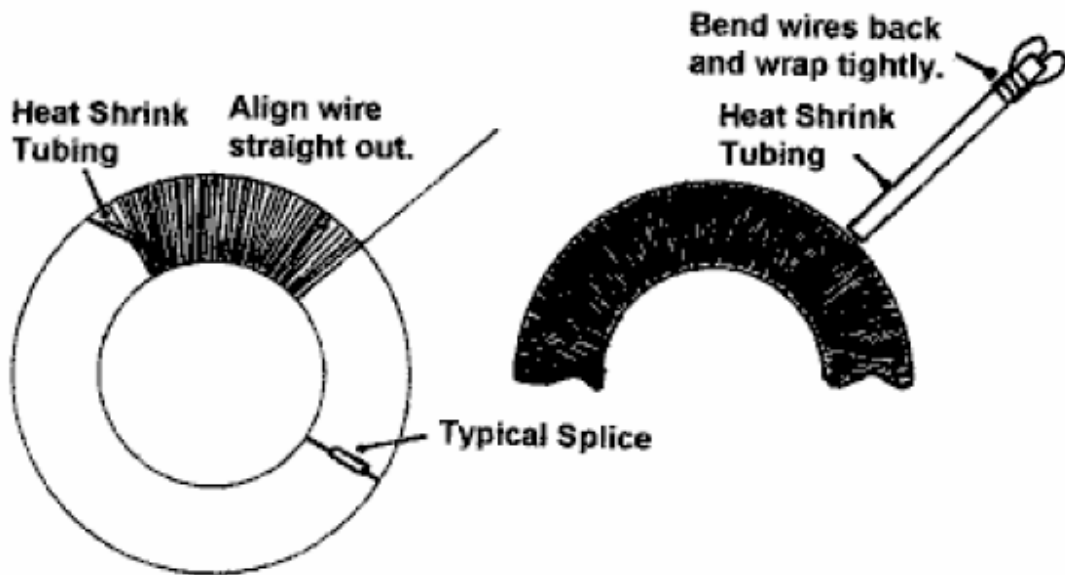

Figure 19: Toroid Coil Details
2. Referring to Figure 19, slip a 1" length of small heat shrink tubing about 4" onto the magnet wire and apply heat to shrink it in place. If you are right-handed, you'll probably choose to wrap the coil in a clockwise direction, holding the core with your left hand. In that case, lay the shrink tubing on top of the core, angled off to the left at about 30 degrees from straight out as shown. Start the first wire wrap over the tubing at about its midpoint. This will be the start of layer #1 for the inner core. Be sure to keep the wire wraps tight against each other on the inside edge of the core, with no overlapping. Keep tension on the wire, with the wire always pointing straight out from the core. Precise wire positioning has little to no effect on overall coil performance. But, the first wrap dictates the wire positions of each subsequent wrap since each wire will fall into the depression formed between the two wires of the preceding wrap. In short, if you do a sloppy job on the first layer, you'll end up with a sloppy coil. So, take your time to do the job right. Continue wrapping until you have completed a full turn (completing coil inner layer #1). Tightly wrap a strip of plastic electrical tape around the wire and the coil entry wire at the end of layer #1.
Coil thickness tapers down between the inner and outer edges. To minimize inner coil thickness, position wire splices on the top or bottom of the coil, midway between the edges as shown in Figure 19.
11. Referring to Figure 19, temporarily slide a 5” length of heat shrink tubing over the ends of the coil wires. Draw the tubing snugly up against the outer coil edge and bend the coil leads back toward the coil at the outer end of the tubing. Tightly wrap each coil wire 4 to 5 turns around the tubing about 1” from the end, and twist the wires together for at least 5 or 6 turns.